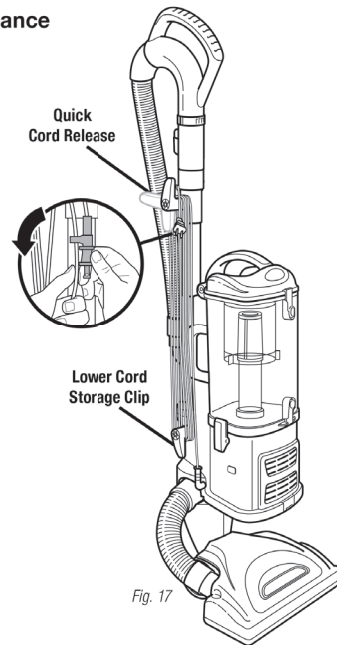

Fig. 17
- Rotate the upper quick cord release to its upright position and coil the power cord loosely around the two clips. Clip the plug onto the cord to secure. (Fig. 17)